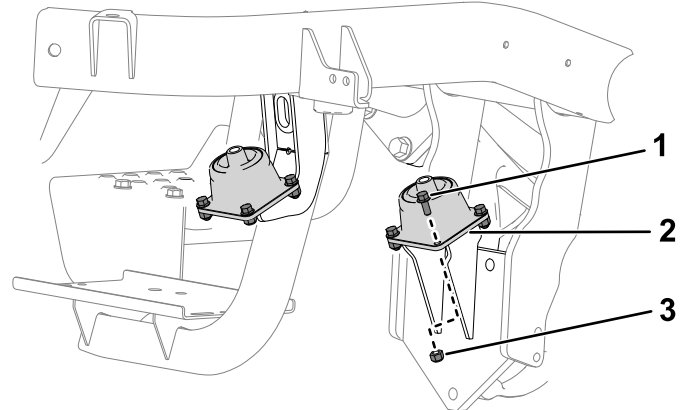

Figure 3
3. Remove the existing bolt, nut, and motor mount from the frame (Figure 3).